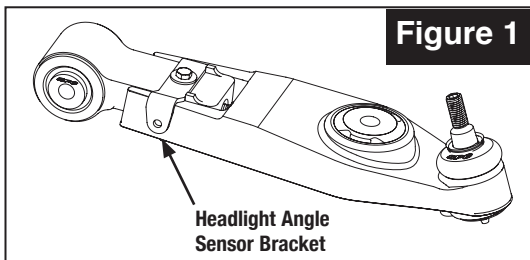

Figure 1
6. If equipped with Litronic headlight angle sensor, attach supplied sensor bracket to new control arm using supplied hardware and reattach sensor linkage to new bracket, see **Figure 1**.